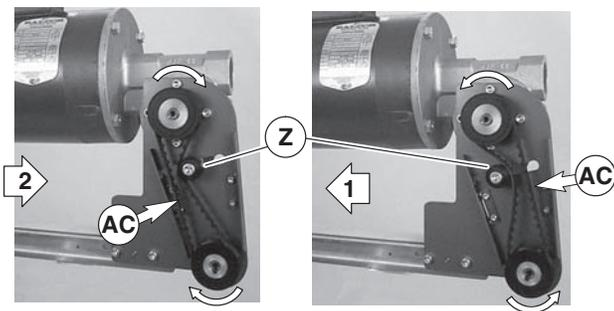

Figure 17
- Depending on direction of conveyor belt travel (Figure 17, item 1 or 2), position belt tensioner (Z) as shown. Tension belt to obtain 0.125" (3 mm) deflection for 1.0 lb (456 grams) of force at belt mid-point (AC). Tighten tensioner screw to 103 in-lb (12 Nm).
3. Depending on direction of conveyor belt travel (Figure 17, item 1 or 2), position belt tensioner (Z) as shown. Tension belt to obtain 0.125" (3 mm) deflection for 1.0 lb (456 grams) of force at belt mid-point (AC). Tighten tensioner screw to 103 in-lb (12 Nm).
5. Depending on direction of conveyor belt travel (1 or 2 of Figure 17), position belt tensioner (Z) as shown. Tension belt to obtain 0.125" (3 mm) deflection for 1.0 lb (456 grams) of force at belt mid-point (AC). Tighten tensioner screw to 103 in-lb (12 Nm).